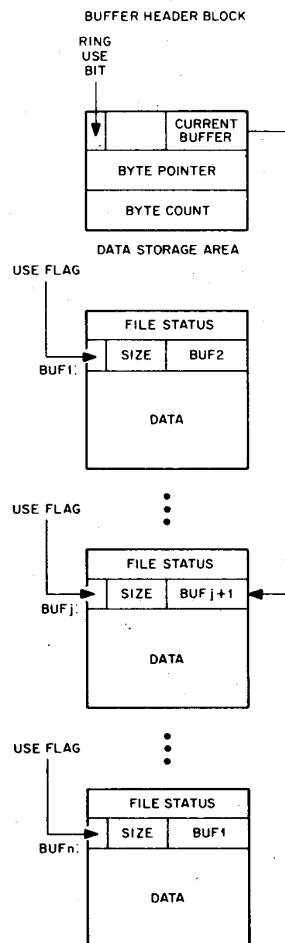

Figure 4-1
- 1) Buffer Structure - A ring of buffers consists of a 3-word header block and a data storage area subdivided into one or more individual buffers linked together to form a ring. The ring buffer layout is shown in Figure 4-1, and explained in the paragraphs which follow.